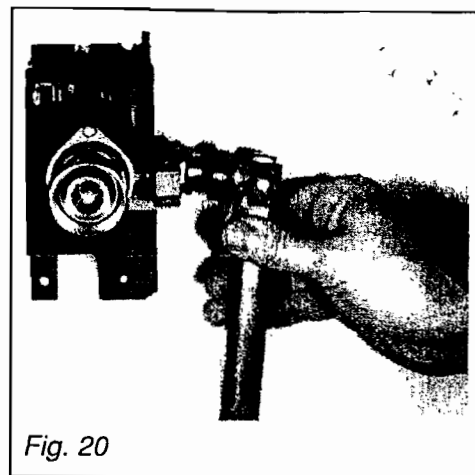

Fig. 20
6.11.7 Connect the gas supply to the gas service cock and gas service cock to the union on the gas inlet elbow. Refer to Fig.20.